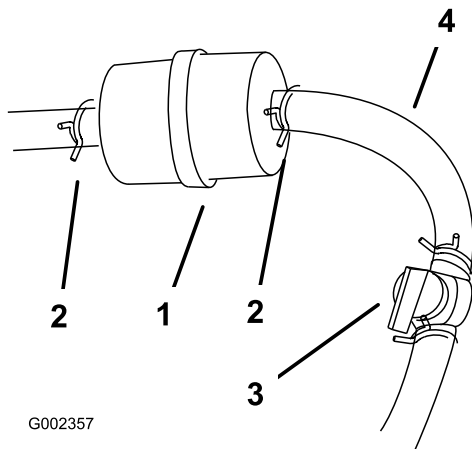

Figure 38
4. Close the fuel shutoff valve (Figure 38).
5. Squeeze the ends of the hose clamps together and slide them away from the filter (Figure 38).
7. Install a new filter and move the hose clamps close to the filter (Figure 38).
3. Close the fuel shutoff valve (Figure 38).
4. Loosen the hose clamp at the fuel filter and slide it up the fuel line away from the fuel filter (Figure 38).
5. Disconnect the fuel line from the fuel filter (Figure 38).
Note: Allow gasoline to drain into a fuel container can or drain pan (Figure 38).
7. Install the fuel line onto the fuel filter. Slide the hose clamp close to the fuel filter to secure the fuel line (Figure 38).